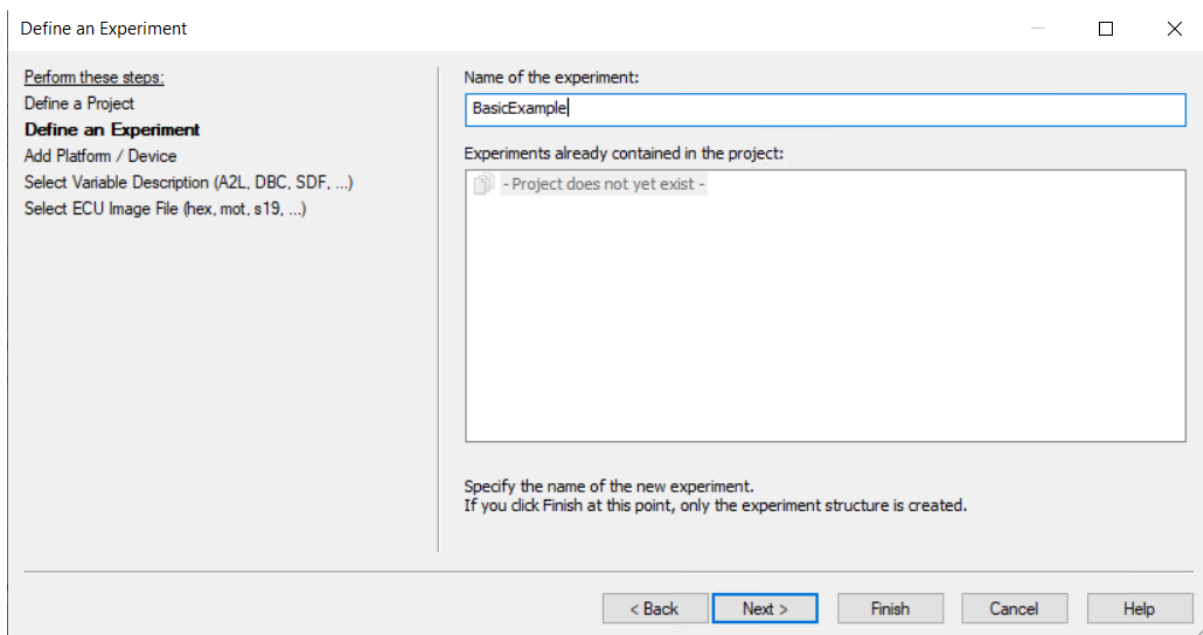

Figure 13.50: Name your experiment.
- 3) Name the experiment to execute (see Figure 13.50).